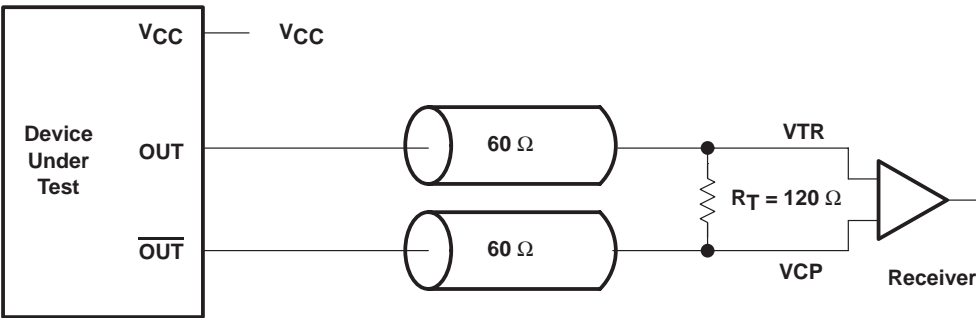

Figure 3. Differential Signal Using Direct Termination Resistor
6. Differential input signal voltage specifies the differential voltage $|V_{TR} - V_{CP}|$ required for switching, where V_{TR} is the true input level and V_{CP} is the complementary input level (see figure 3).
‡ The value of V_{OC} is expected to be |V_{TR} + V_{CP}|/2. In case of each clock directly terminated by a 120-Ω resistor, where V_{TR} is the true input signal voltage and V_{CP} is the complementary input signal voltage (see Figure 3).
Figure 3 shows the differential clocks are directly terminated by a 120-Ω resistor.